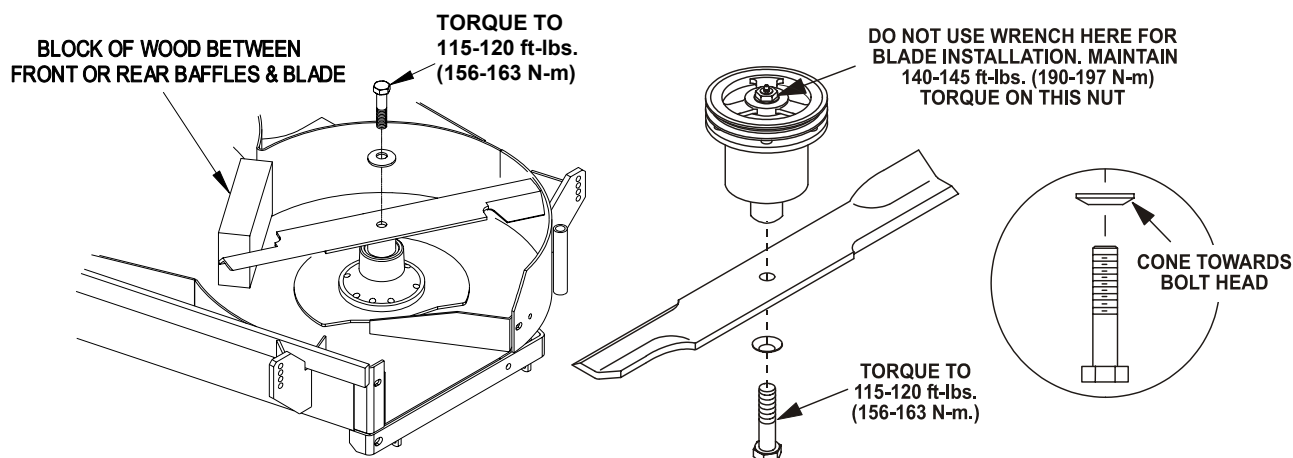

FIGURE 7
- d) Re-install the blades (if they were removed) by placing a block of wood between the front or rear baffles and the blade then torque the blade bolts to 115-120 ft-lbs. (156-163 N-m). Be sure the spring disc washer cone is installed toward the bolt head (See Figure 7).